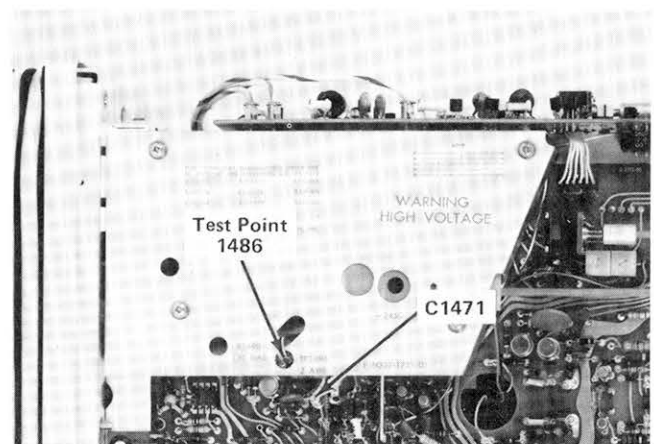

Fig. 5-6. Location of Z-Axis compensation adjustment and test point 1486.
b. Connect the X10 probe from the Test Oscilloscope to TP1486 (see Fig. 5-6).
e. ADJUST—Z-Axis Compensation adjustment, C1471, using low capacitance screwdriver, (see Fig. 5-6) for optimum square corner on the unblanking gate.